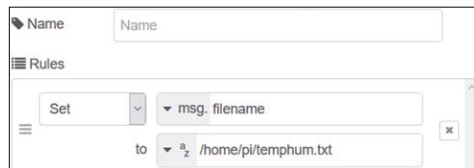

Figure 10.2 Configure node change
- Create a **change** node and set **msg.filename** to the name of the file where we want the data to be stored, i.e. /home/pi/temphum.txt. Note that we could have set the filename in the node **file** as well. If msg.filename is used then the file will be closed after every write. Configure this node as shown in Figure 10.2